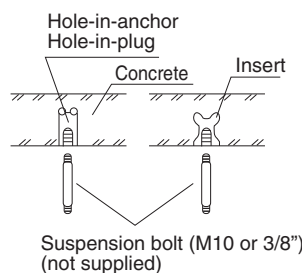
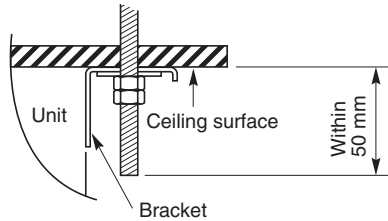

Fig. 3-11
Fig. 3-13
- (3) Drill holes at the 4 points indicated on the full-scale diagram.
- (4) Depending on the ceiling type:
- a) Insert suspension bolts (Fig. 3-11).
- (5) Screw in the suspension bolts, allowing them to protrude from the ceiling (Figs. 3-11 and 3-12). The distance of each exposed bolt must be of equal length within 50 mm. (Fig. 3-13)